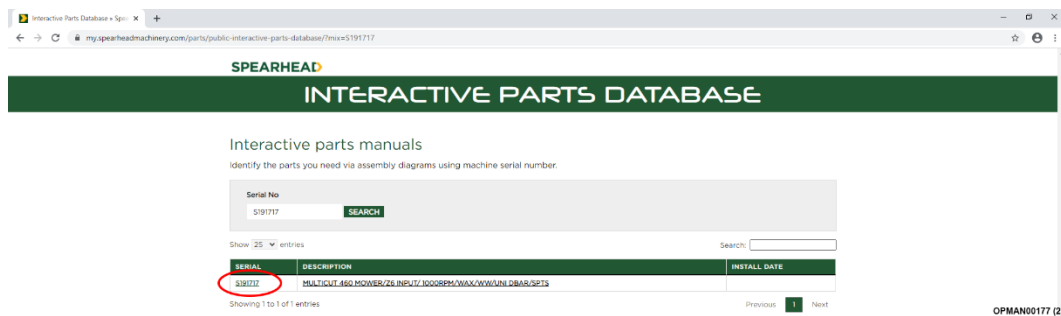

Figure 7.2 – Click On Serial Number
7.1.1.2 After entering the serial number a specification for the machine will appear. Click on the serial number; see Figure 7.2.